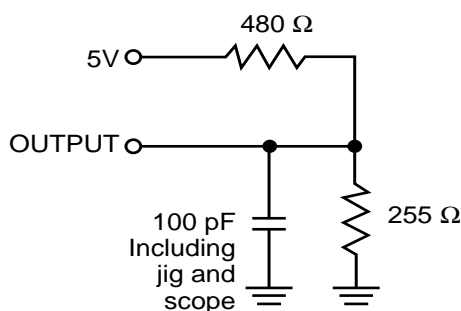

Figure 1a.
Output Load	See Figures 1a and 1b
1. Test conditions assume signal transition times of 5 ns or less, timing reference levels of 1.5V, input pulse levels of 0 to 3.0V and output loading specified in Figure 1a.